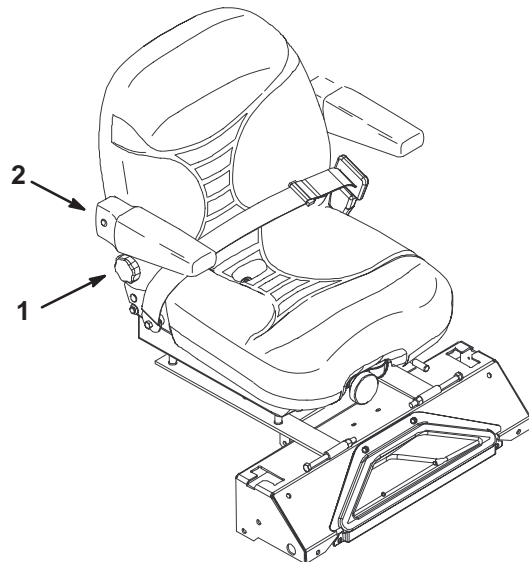

Figure 26
1. To adjust, turn the knob, under the rightside arm rest, in either direction to provide the best comfort (Fig. 26).